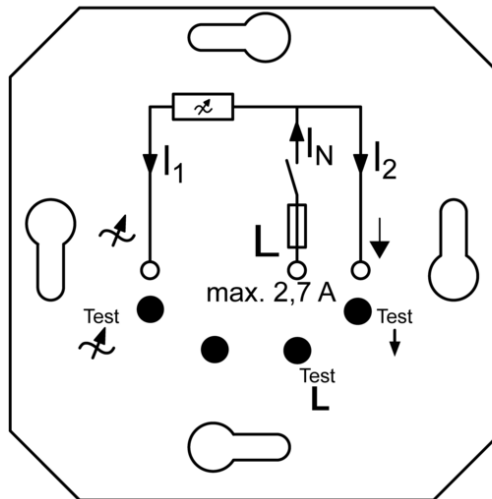

Figure 2: Circuit schematic
- Measuring points (Figure 2) make it possible to check the connected voltages without dismantling the speed controller.